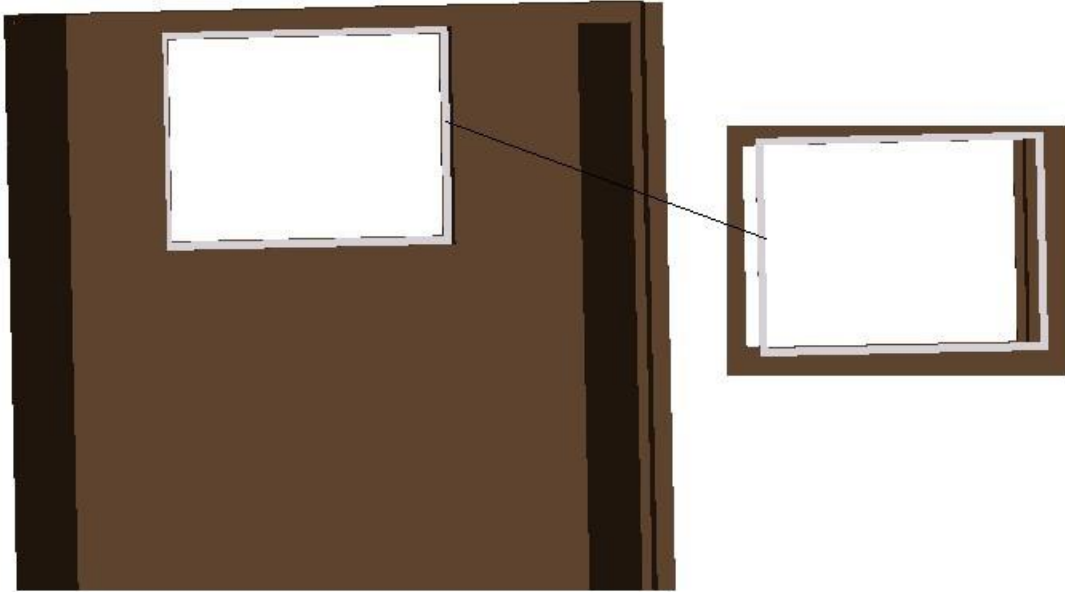

Fig. 2.4 REAR GASKETS
- Place the gaskets (1/2" foam tape) on the gasket lips (see Fig. 2.4).